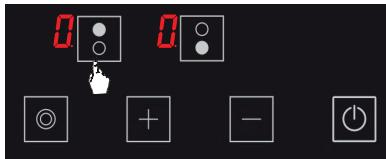

Figure 9
2. Press the relevant hob selection key once. The **H** icon is displayed when you touch for the first time. (See Fig. 9)